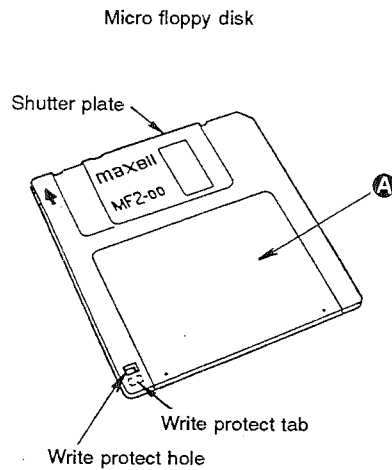

Fig. 3-3
After turning ON the power switch slowly insert the floppy disk with side A (as shown in Fig. 3-3) facing right until the eject push-button pops out.
- (3) Write-protect hole (Fig. 3-3)
- (4) Micro floppy disk (Fig. 3-3)